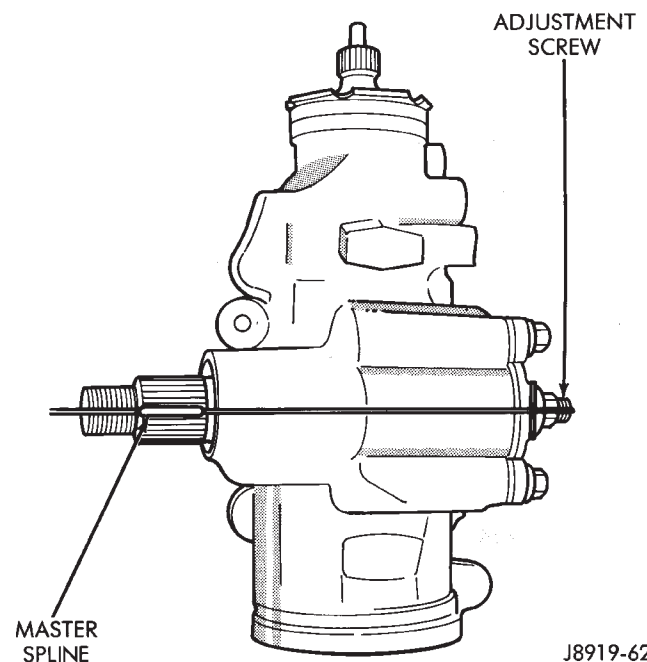

Fig. 28 Steering Gear Centered
(1) Rotate the stub shaft with a 12 point socket from stop to stop and count the number of turns.
(2) Starting at either stop, turn the stub shaft back 1/2 the total number of turns. This is the center of the gear travel (Fig. 28).